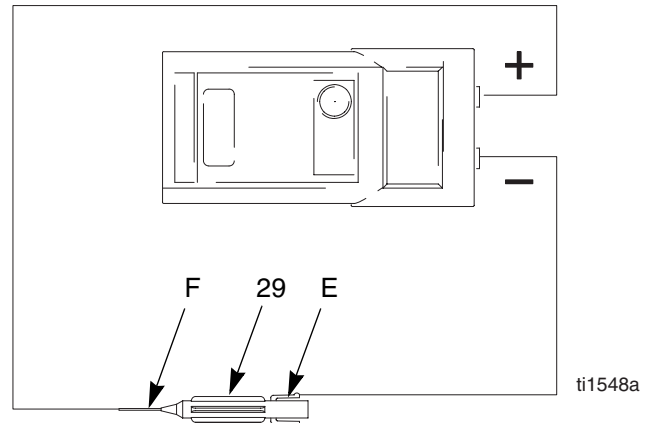

Fig. 7. Electrode
4. Remove the electrode (29), page 27. Measure the resistance between the contact (E) and the electrode wire (F). The resistance should be 20-30 megohms. If out of range, replace the electrode. See FIG. 7..